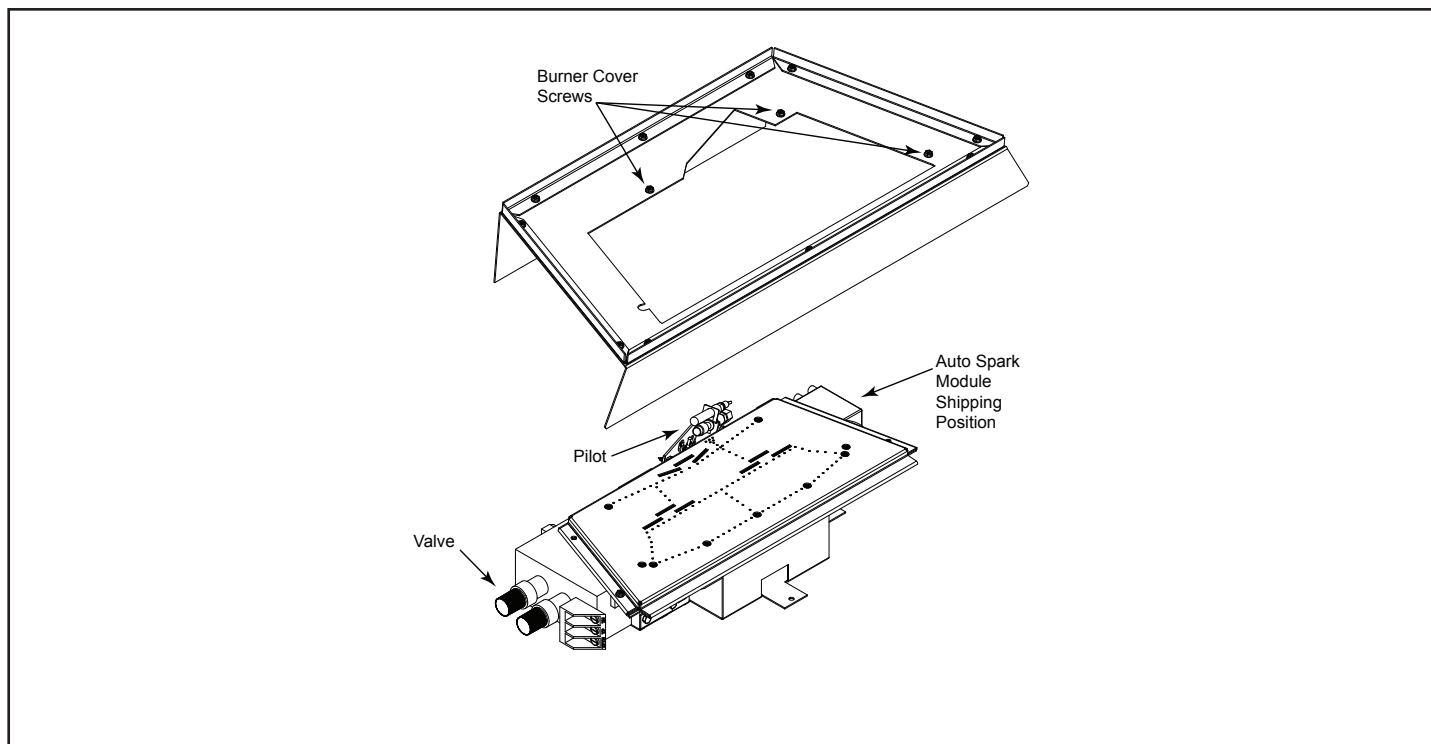

Figure 4.4 - Installing Remote Receiver
1. Remove the three (3) screws holding the burner cover in place. Remove the cover and set aside until the appliance is fastened inside the firebox. See Figure 4.4.
3. With the cover removed, locate the two (2) rear mounting points on each side of the pilot assembly on the bracket attached to the rear engine base.
5. With the burner assembly correctly centered, mark the two (2) holes in the rear and single hole in the front on the firebox floor. Drill three (3) 5/32" diameter holes approximately 1/4" deep. Anchor the burner assembly with the three (3) supplied anchoring screws using a 1/4" hex head driver.